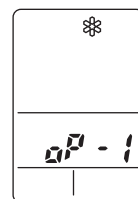

Fig. 30
- d) ✱ appears and "oP-1" blinking in the remote controller clock display area. (Fig. 30)